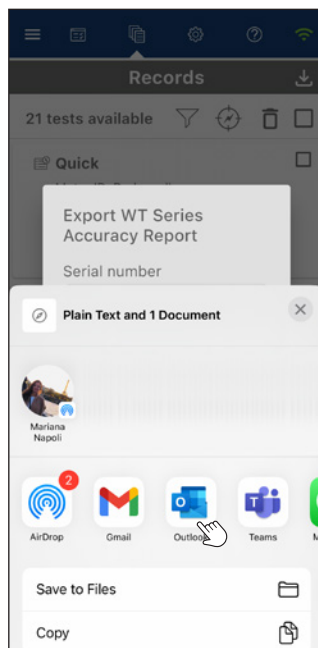

Figure 3
- Select the mail application (iOS) (Figure 3).